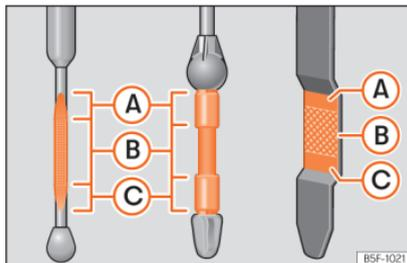

Fig. 195 Engine oil dipstick.
- Then pull it out once more and check the oil level »» **Fig. 195**. Top up with engine oil if necessary.
- When the oil level reaches at least zone »» **Fig. 195 (B)**, unscrew the engine oil filler cap carefully »» **ⓘ**.
If the oil level is above area »» **Fig. 195 (A)**, do not start the engine. This could result in damage to the engine and catalytic converter. Contact a specialised workshop.
The oil level must never be above zone »» **Fig. 195 (A)**. Otherwise oil can be drawn in through the crankcase breather and leak into the atmosphere via the exhaust system.